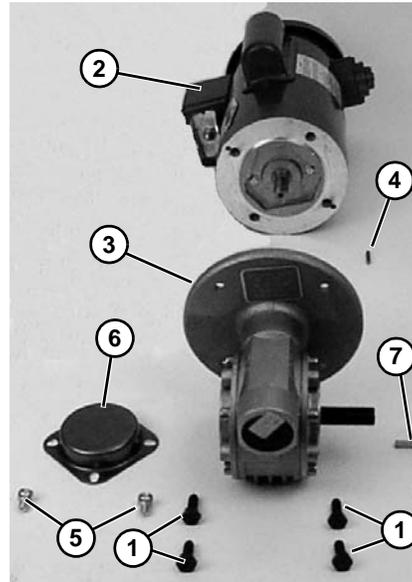

Figure 37
5. Remove four screws (Figure 37, item 1). Detach motor (Figure 37, item 2) from gear reducer (Figure 37, item 3). Retain motor output shaft key (Figure 37, item 4).
6. Remove two (2) screws (Figure 37, item 5) and detach output shaft cover (Figure 37, item 6).
7. Remove gear reducer output shaft key (Figure 37, item 7).
- Apply anti-seize to motor shaft before assembling to gearbox. With key (**Figure 37, item 4**) in keyway, slide motor (**Figure 37, item 2**) and gear reducer (**Figure 37, item 3**) together. Install screws (**Figure 37, item 1**) and tighten.